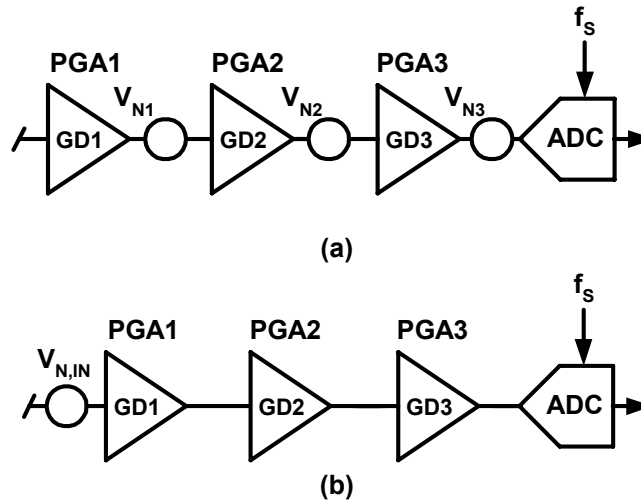
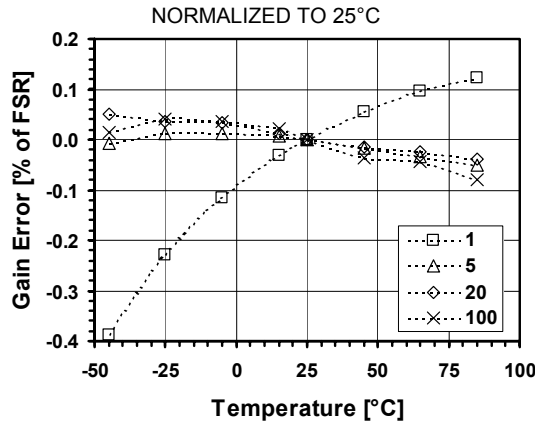

Figure 16-18. (a) Simple noise model for PGAs and ADC and (b) total input referred noise
Figure 16-19. Gain error vs. temperature for different PGA gains
- (1) Gain defined as overall PGA gain $GD_{TOT} = GD_1 \cdot GD_2 \cdot GD_3$. Maximum input voltage is given by: $V_{IN,MAX} = \pm(V_{REF}/2) \cdot (OSR/OSR+1)$.
- (2) Offset due to tolerance on $GDOFF_2$ or $GDOFF_3$ setting. For small intrinsic offset, use only ADC and PGA1.
- (3) Measured with block connected to inputs through AMUX block. Normalized input sampling frequency for input impedance is $f_s = 512kHz$. This figure must be multiplied by 2 for $f_s = 256kHz$, 4 for $f_s = 128kHz$. Input impedance is proportional to $1/f_s$.
- (4) Figure independent from PGA1 gain and sampling frequency f_s . See model of Figure 16-18(a). See equation Eq. 21 to calculate equivalent input noise.
- (5) Figure independent on PGA2 gain and sampling frequency f_s . See model of Figure 16-18(a). See equation Eq. 21 to calculate equivalent input noise.
- (6) Figure independent on PGA3 gain and sampling frequency f_s . See model of Figure 16-18(a) and equation Eq. 21 to calculate equivalent input noise.
- (7) Resolution is given by $n = 2 \cdot \log_2(OSR) + \log_2(N_{ELCONV})$. OSR can be set between 8 and 1024, in powers of 2. N_{ELCONV} can be set to 1, 2, 4 or 8.
- (8) If a ramp signal is applied to the input, all digital codes appear in the resulting ADC output data.
- (9) Gain error is defined as the amount of deviation between the ideal (theoretical) transfer function and the measured transfer function (with the offset error removed). (See Figure 16-19)
- (10) Offset error is defined as the output code error for a zero volt input (ideally, output code = 0). For ± 1 LSB offset, N_{ELCONV} must be ≥ 2 .
- (11) INL defined as the deviation of the DC transfer curve of each individual code from the best-fit straight line. This specification holds over the full scale.
- (12) DNL is defined as the difference (in LSB) between the ideal (1 LSB) and measured code transitions for successive codes.
- (13) Figures for Gains = 1 to 100. PSRR is defined as the amount of change in the ADC output value as the power supply voltage changes.
- (14) Conversion time is given by: $T_{CONV} = (N_{ELCONV} \cdot (OSR + 1) + 1) / f_s$. OSR can be set between 8 and 1024, in powers of 2. N_{ELCONV} can be set to 1, 2, 4 or 8.
- (15) PGAs are reset after each writing operation to registers RegAcCfg1-5. The ADC must be started after a PGA or inputs common-mode stabilisation delay. This is done by writing bit *Start* several cycles after PGA settings modification or channel switching. Delay between PGA start or input channel switching and ADC start should be equivalent to OSR (between 8 and 1024) number of cycles. This delay does not apply to conversions made without the PGAs.
- (16) Nominal (maximum) bias currents in PGAs and ADC, i.e. $IB_AMP_PGA[1:0] = '11'$ and $IB_AMP_ADC[1:0] = '11'$.
- (17) Bias currents in PGAs and ADC set to 3/4 of nominal values, i.e. $IB_AMP_PGA[1:0] = '10'$, $IB_AMP_ADC[1:0] = '10'$.
- (18) Bias currents in PGAs and ADC set to 1/2 of nominal values, i.e. $IB_AMP_PGA[1:0] = '01'$, $IB_AMP_ADC[1:0] = '01'$.
- (19) Bias currents in PGAs and ADC set to 1/4 of nominal values, i.e. $IB_AMP_PGA[1:0] = '00'$, $IB_AMP_ADC[1:0] = '00'$.
The simple noise model of Figure 16-18(a) is used to estimate the equivalent input referred rms noise $V_{N,IN}$ of the acquisition chain in the model of Figure 16-18(b). This is given by the relationship:
Note: see noise model of Figure 16-18 and equation Eq. 21.
Figure 16-19 shows gain error drift vs. temperature for different PGA gains. The curves are expressed in % of Full-Scale Range (FSR) normalized to 25°C.